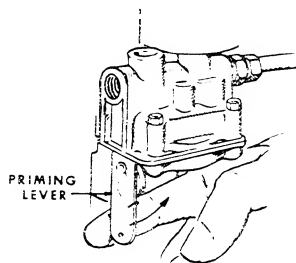

FIGURE 14. PRIMING LEVER ON FUEL PUMP
3. Check to make sure engine has supply of fuel — fuel recommended under *Gasoline Fuel*. You can hand prime the engine fuel system using the fuel pump priming lever (Figure 14).